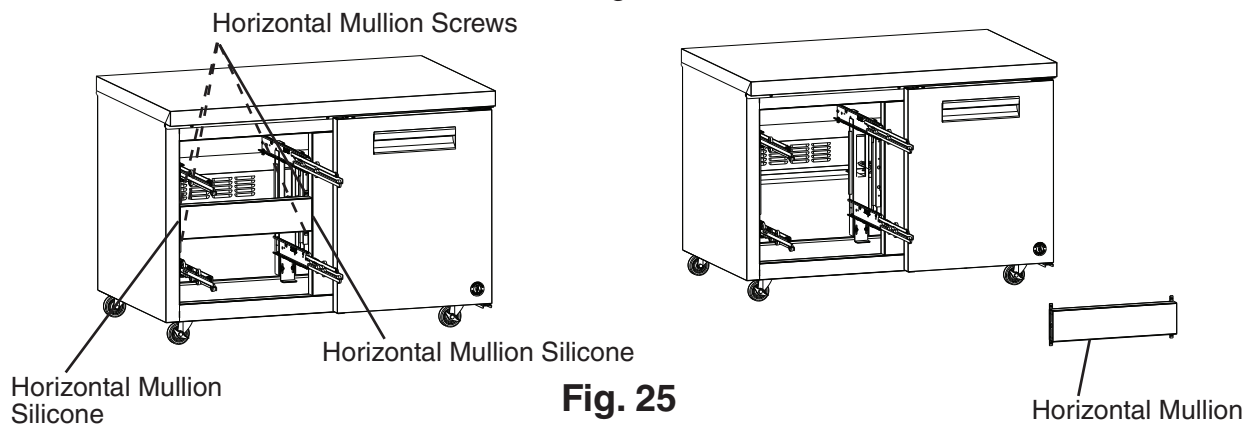

Fig. 25
- 3) Remove the 4 horizontal mullion screws, then cut the horizontal mullion silicone loose and remove the horizontal mullion. See Fig. 25.